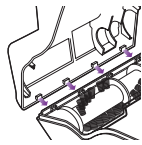

Fig. 26
- 3 To reassemble, insert the tabs on the front edge of the bottom cover into the matching holes in the top half and tilt it back down until it clicks into place. (Fig. 26)